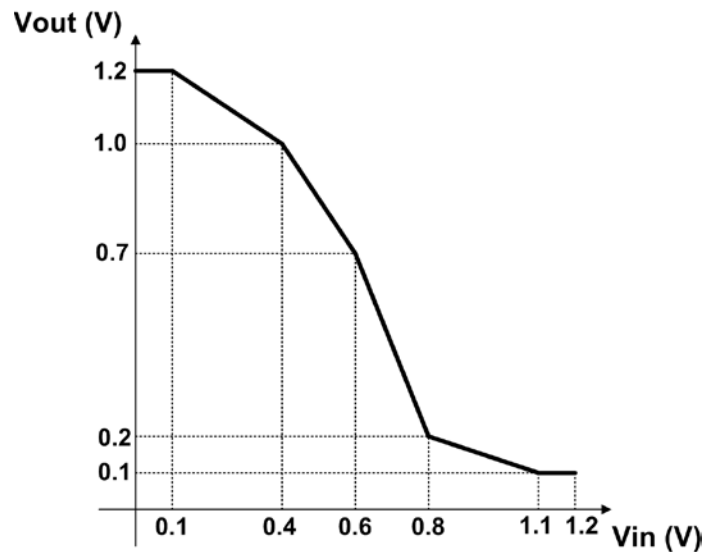

Figure 1(b)
- a) Add the DC voltage sources to Figure 1(a) that you would use for modeling noise coupling to the input and output of gate  $M_2$ . You should arrange these voltage sources so that they would both impact the noise margin in the same way (i.e., if the voltage source at the input decreases the noise margin, the voltage source at the output should also decrease the noise margin).